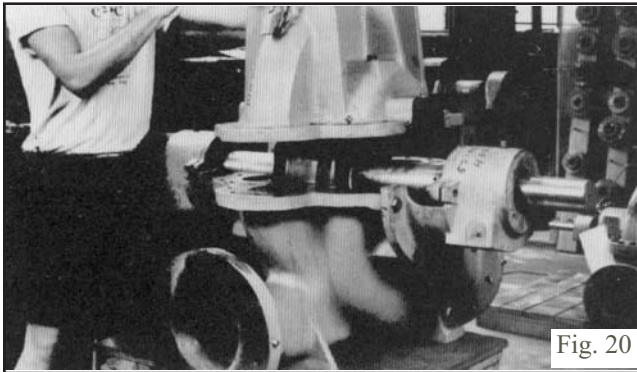

Fig. 20
22. Lower upper half casing (100) into place (See Fig. 20) and locate using the taper dowels (469G) and install casing main joint bolts (426 & 426A). The casing joint bolts should be tightened to the following torques: 300 ft-lb minimum for .75"-10 Ferry Cap Countr-bor screws (Grade 8), 400 ft-lb minimum for 1.0"-8 Ferry Cap Countr-bor screws (Grade 8). Bolt torquing pattern is shown in Fig. 39. The number of casing bolts varies with the size of the pump. (See Fig. 16) Before tightening bolts, be sure taper dowels are seated properly in reamed holes.